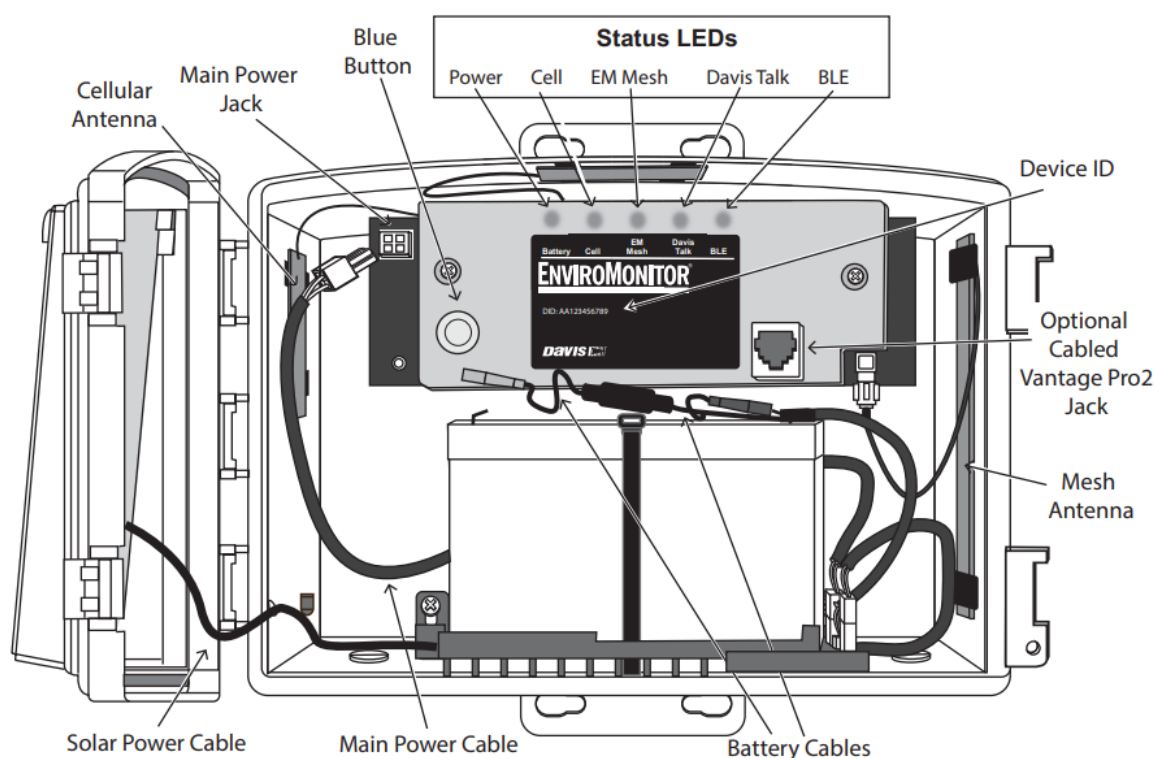

Figure 2 - EnviroMonitor Gateway (Wireless)
- EnviroMonitor gateway (Figure 2).
Once installed to scaffolding, open the front-facing door of the gateway unit. You are presented with an EnviroMonitor device with five labelled LEDs: Power, Cell, Mesh, Sensor Suite & Bluetooth Low Energy (BLE). Figure 2 shows an EnviroMonitor system with a Davis Talk LED, this is not present on our model of EnviroMonitor.